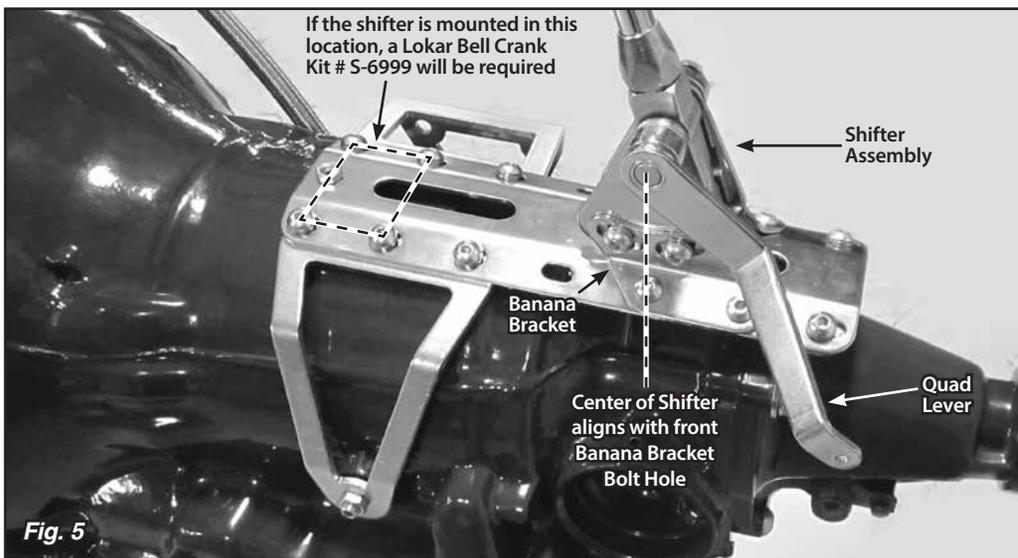

Fig. 5
**Step 8: (Continued)** Transfer that measurement to the transmission (or to the engine/transmission assembly if the engine is not installed in the vehicle). Mark that location on the main plate. The holes in the main plate that are closest to your mark are where the **FRONT** banana bracket bolts will need to be installed. **Fig. 5**
**NOTE: If mounting the shifter all the way forward, using the four bolt holes at the very front of the main plate, a bell crank kit (Lokar Part No. S-6999, sold separately) will be required. Fig. 5**